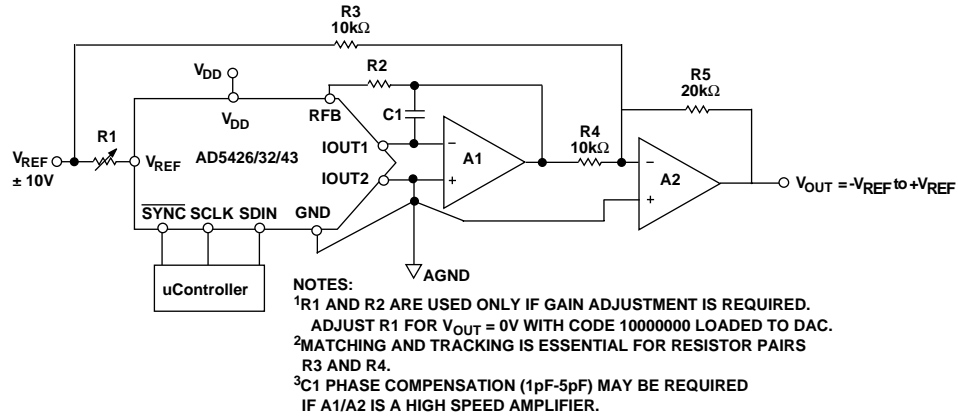

Figure 7. Bipolar Operation (4 Quadrant Multiplication)
In some applications, it may be necessary to generate full 4-Quadrant multiplying operation or a bipolar output swing. This can be easily accomplished by using another external amplifier and some external resistors as shown in Figure 7. In this circuit, the second amplifier A2 provides a gain of 2. Biasing the external amplifier with an offset from the reference voltage results in full 4-quadrant multiplying operation. The transfer function of this circuit shows that both negative and positive output voltages are created as the input data (D) is incremented from code zero ( $V_{OUT} = -V_{REF}$ ) to midscale ( $V_{OUT} = 0V$ ) to full scale ( $V_{OUT} = +V_{REF}$ ).